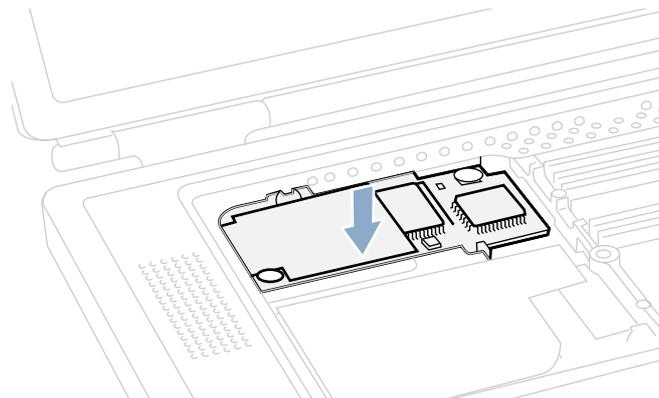

Figure 12
4. Press down on the front edge of the modem, slightly left of center, to firmly connect it to the logic board (**Figure 12**).